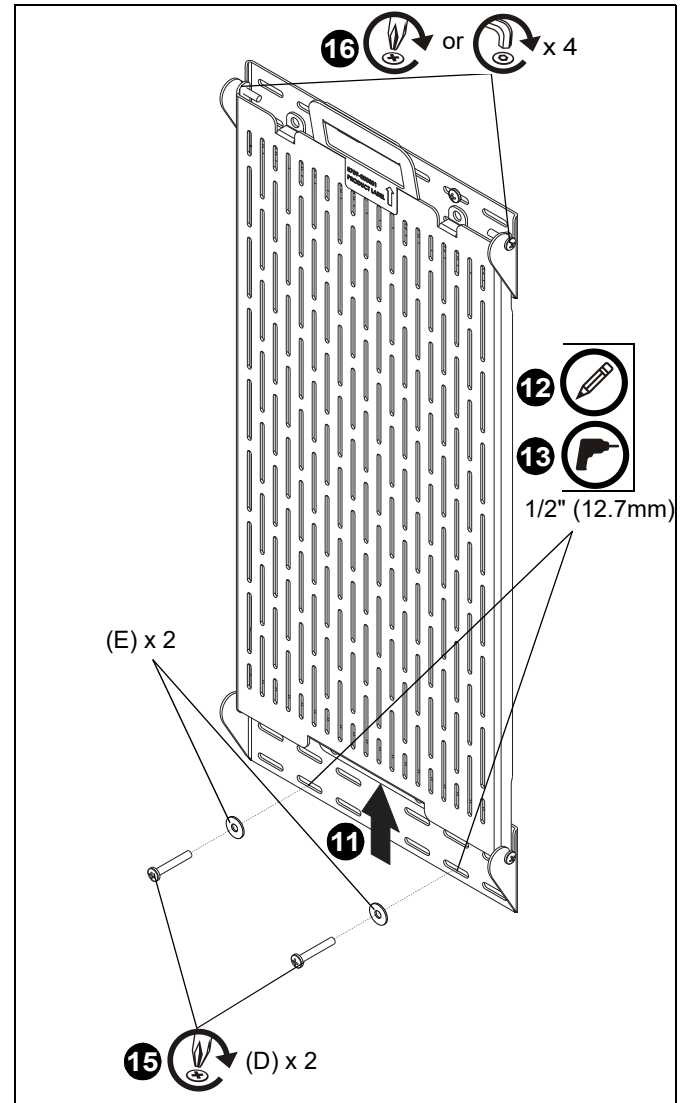

Figure 12
11. Place lower wall bracket (B) under accessory wall plate so that lower screws (F) or (G) sit in the slots of lower wall bracket (B). (See Figure 12)
12. Mark desired hole locations to mount lower wall bracket to wall. (See Figure 12)
13. Remove lower wall bracket from wall and drill two 1/2" holes at marked locations. (See Figure 12)
14. Install two #10-24 anchors (C) into drilled holes following Steps 3-6.
15. Reposition lower wall bracket (B) in mounting position and use two #10-24 x 1 1/4" Phillips pan machine screws (D) and two #10 washers (E) to secure wall bracket (B) to anchors (C). (See Figure 12)
16. Tighten all four screws (F) or (G) holding accessory wall plate (A) to wall brackets (B). (See Figure 12)